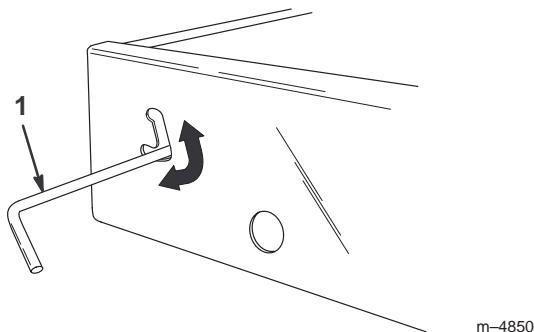

Figure 11
- Slide the latch upward toward the top of the cutout in the bed frame (Fig. 11).
- To secure the bed tightly to the bed frame, move the latch to the lower section of the cutout (Fig. 11).